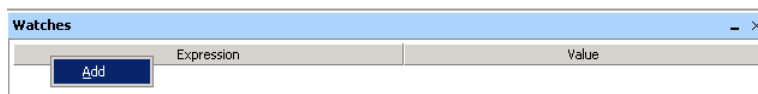

Figure 47. The Watches window.
2. Right-click on the gray bar and click **Add**, as illustrated in Figure 47.